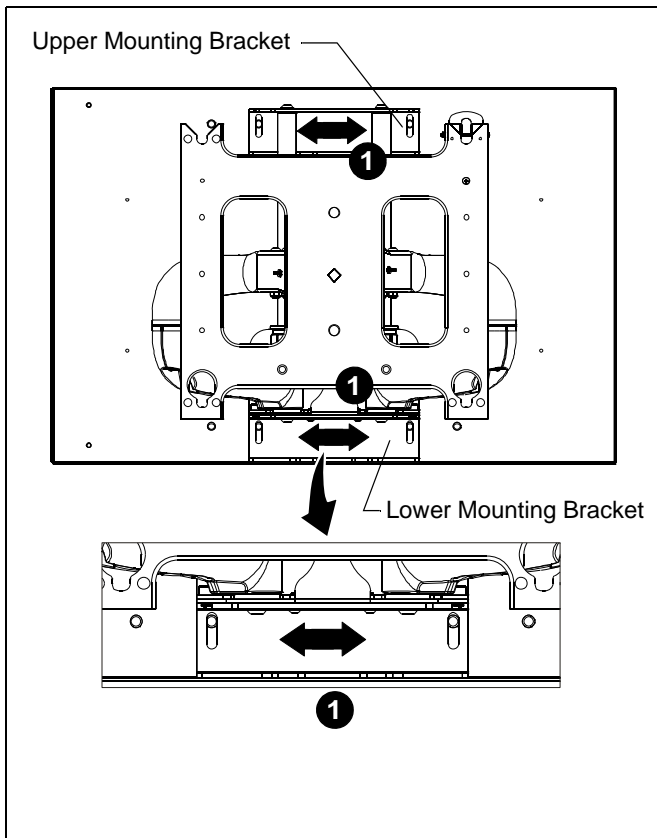

Figure 2
1. Align mounting holes in swing arm UPPER and LOWER mounting brackets with four mounting holes in PAC501. (See Figure 2)